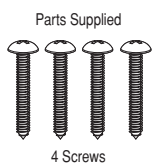

Figure 7B
- Secure the drawer with the 4 screws supplied. See Figure 7B.